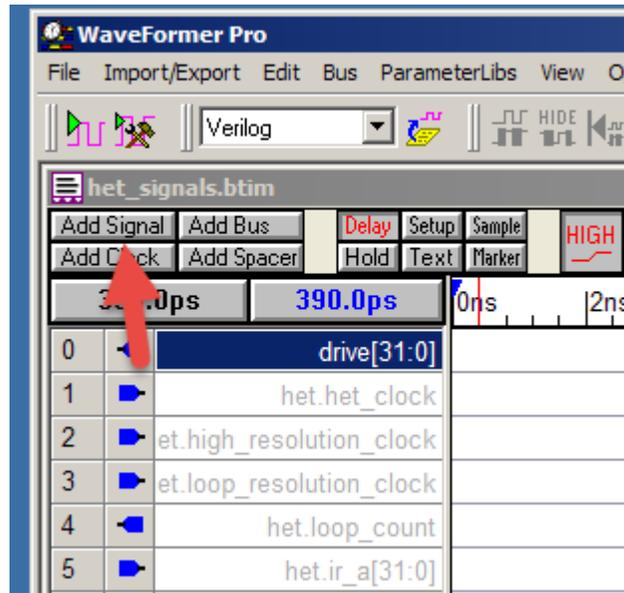

Figure 39. Adding a New Signal to the Waveform Viewer
- Switch focus to the Synaptical Waveform Viewer and press the Add Signal button (see Figure 39).